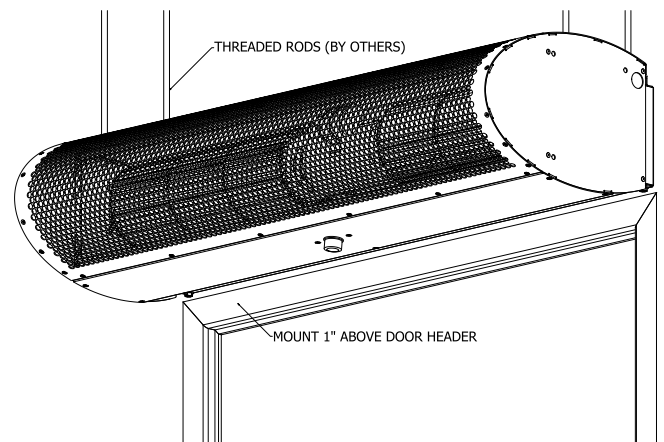

FIG. 3
6. Mount the product such that the discharge is 1" above the opening and all obstacles (FIG. 3).
7. Use six (6) bolts for wall installation, or alternatively, use four (4) threaded rods for overhead installation (FIG. 3). All hardware is field provided by others.